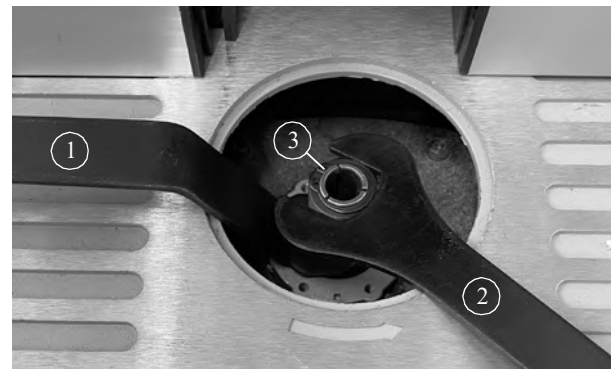

Fig. 16: Installing and changing the tool holder
Installing and changing the tool holder (item 3, Fig. 16)
Step 3: Lock the spindle located below the tool holder using a wrench (item 1, Fig. 16).
Step 4: Loosen the tool holder lock nut (item 3, Fig. 16) in an anti-clockwise direction using a suitable wrench (item 2, Fig. 16).
Step 1: Insert a suitable cutter into the tool holder and secure by tightening the nut (item 3, Fig. 16) on the tool holder.